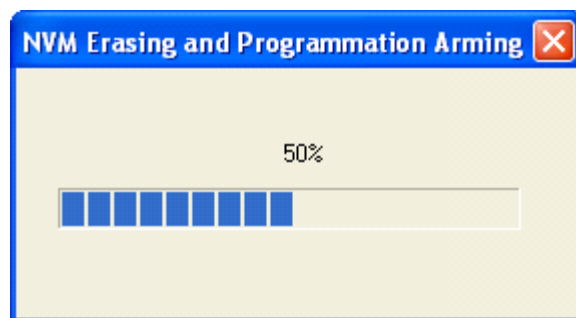

Figure A-6. Erasing and Programming window
- The pop-up in Figure A-6 appears to erase and program the built image to JM128 Flash